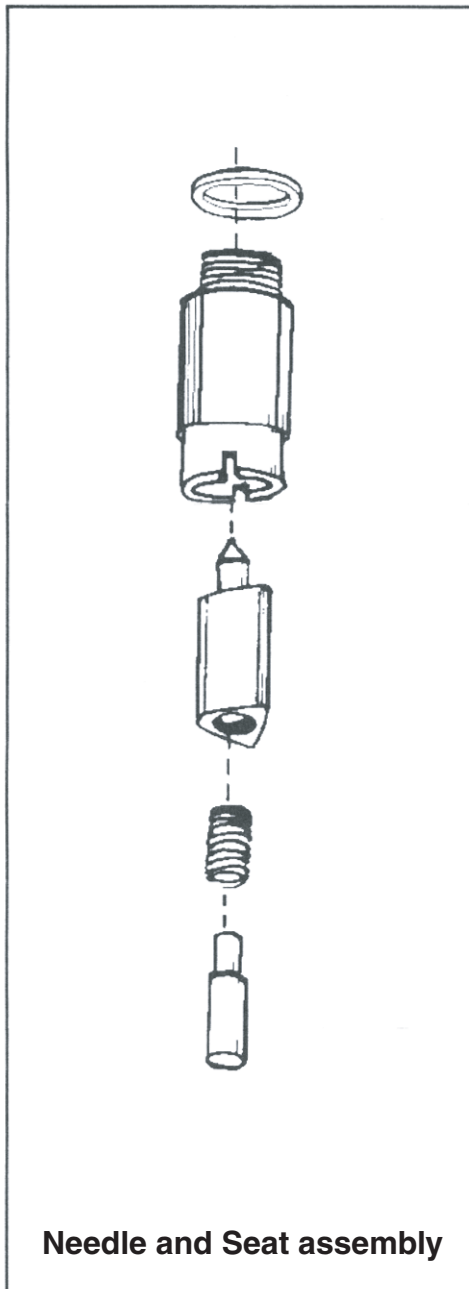
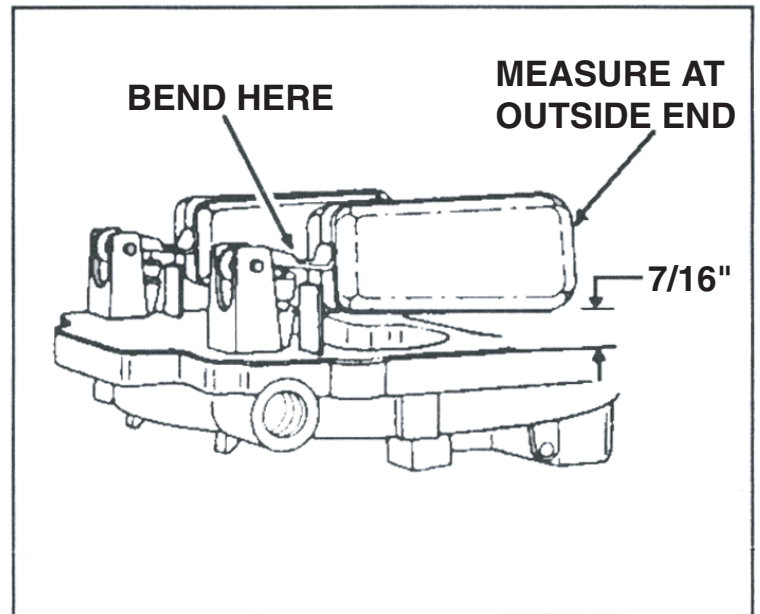

Figure 1
Figure 2
- ☞ **Please study these instructions** carefully before installing your Off-Road needle & seat assembly. If you have any questions or problems, do not hesitate to contact our **Technical Hotline at: (800) 416-8628** from 7:00 am to 5:00 pm, Monday through Friday, Pacific Standard Time or e-mail us at: edelbrock@edelbrock.com.
- ☞ Remove original needle and seat assembly and replace with #1465 (Figure 1). To reset float level, see Figure 2 for proper offroad setting (7/16").